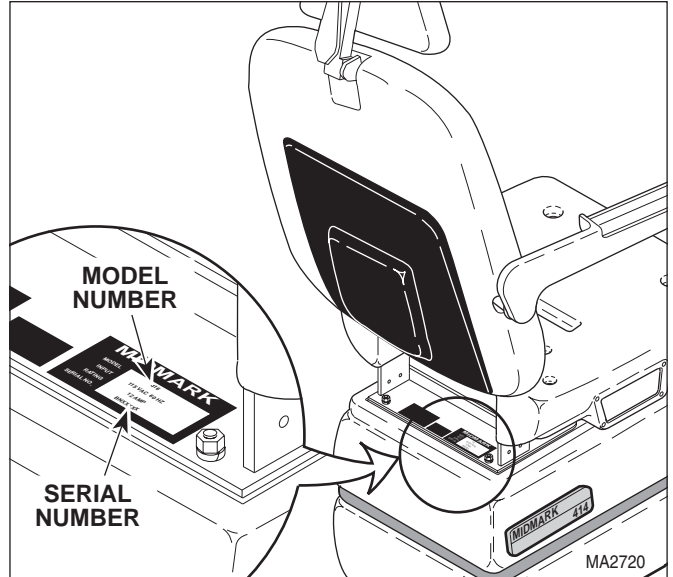

Figure 1-2. Model Number / Serial Number Location
- (1) Refer to Figure 1-2 to determine the location of the model number and serial number of the table and record this data.
- (2) Refer to the Parts List to determine the item numbers of the parts, part numbers of the parts, descriptions of the parts, and quantities of parts needed and record this data (Refer to para 6.1).